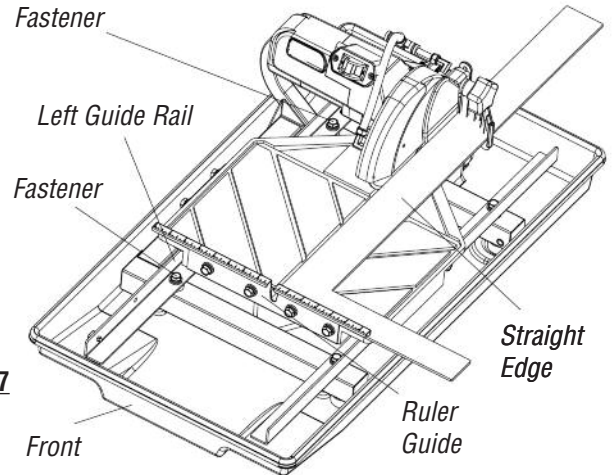

Figure 7
1. Place a straight edge on the cutting table as shown in figure 7.
2. Loosen the left guide rail by untightening the fasteners found at the ends of the rail. (see figure 7) Do not loosen the rail too much to avoid excessive play during adjustments.